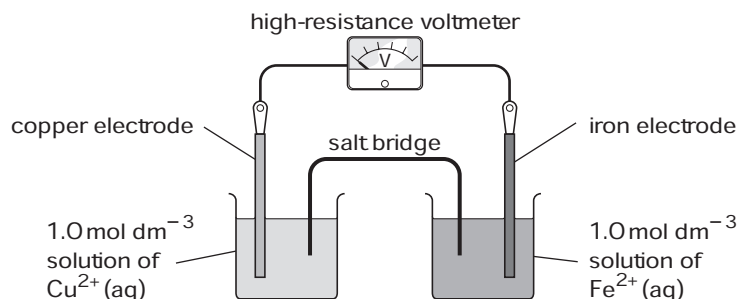

Figure 1 An electrochemical cell made up of $\text{Cu}^{2+}(\text{aq})/\text{Cu}(\text{s})$ and $\text{Fe}^{2+}(\text{aq})/\text{Fe}(\text{s})$ half-cells
- 3 In **Activity SS3.2** you made an electrochemical cell as shown in Figure 1. (There is no need to repeat the experiment here, but you need to remember what you did and what happened.)